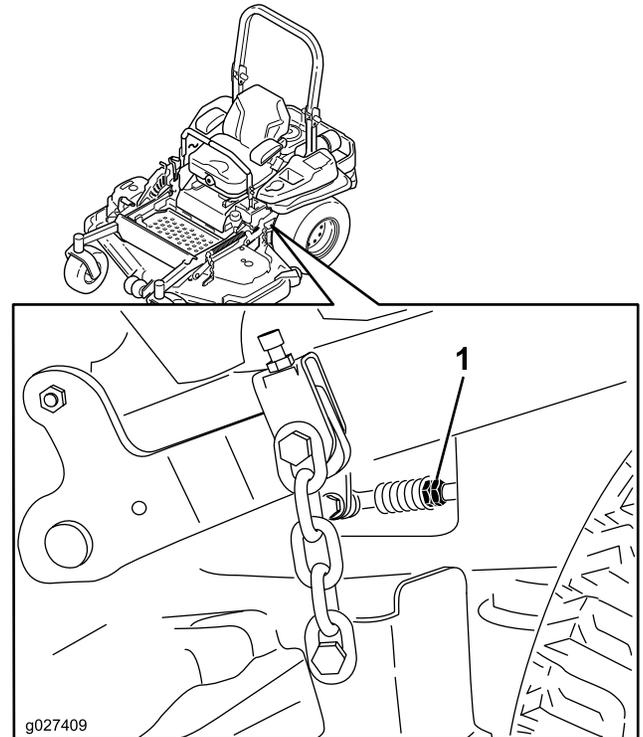

Figure 78
10. Adjust the pump-control-rod lengths by rotating the double nuts on the rod in the appropriate direction until the wheels slightly creep in reverse (Figure 78).